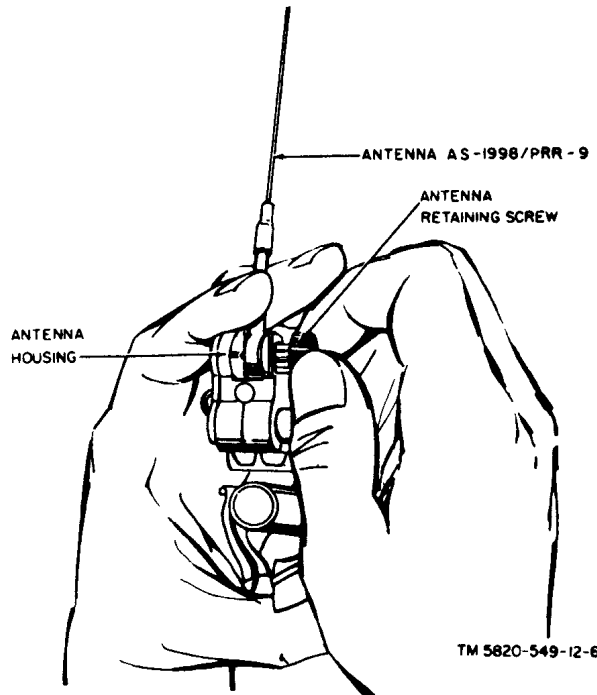

Figure 2-3. Antenna AS-1998/PRR-9, installation.
(fig. 2-3, 2-3.1, and 2-3.2)
d. Antenna Position. To change the position of the receiver antenna, loosen the antenna retaining screw (fig. 2-3), adjust the antenna to the desired position, and tighten the antenna retaining screw. Do not allow the antenna to touch the helmet during operation.